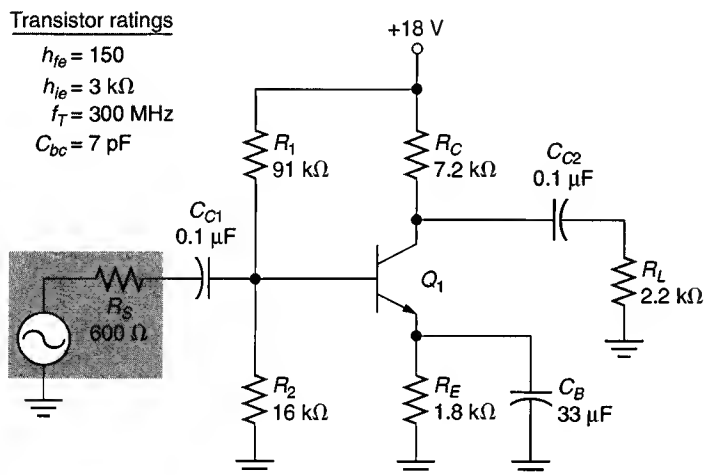

FIGURE 14.31
11. Calculate the value of f_{1B} for the amplifier in Figure 14.31.
13. Calculate the value of f_{1C} for the amplifier in Figure 14.31.
15. Calculate the value of f_{1E} for the amplifier in Figure 14.31.
25. Determine the value of f_{2B} for the amplifier in Figure 14.31.
27. Determine the value of f_{2C} for the amplifier in Figure 14.31.